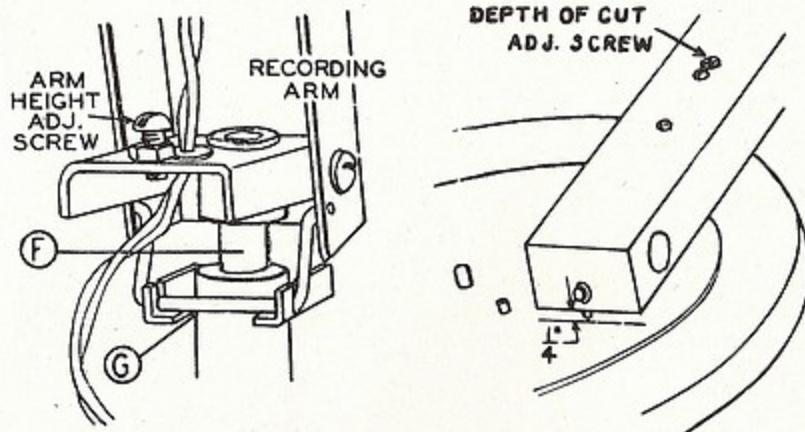

Figure 1
to be incorrect, and an adjustment of the ARM HEIGHT ADJUSTMENT SCREW should be made so that the lower edge of the front end of the arm is EXACTLY $5/16$ inch. To make this adjustment, raise the arm and loosen the lock nut which holds the adjusting screw in position (See Fig. 1). Turning the screw to the left raises the arm and to the right lowers the arm.
3. The depth of cut adjusting screw is located to the rear on the top of the recording arm (See Fig. 1). Turning the screw to the right (clockwise) *increases* the depth of cut, and turning the screw to the left (counter-clockwise) *decreases* the depth of cut. One turn of the adjusting screw makes a noticeable difference in the depth of the groove, therefore, the adjustments should be made in quarter or half turns, rather than in complete turns either way.